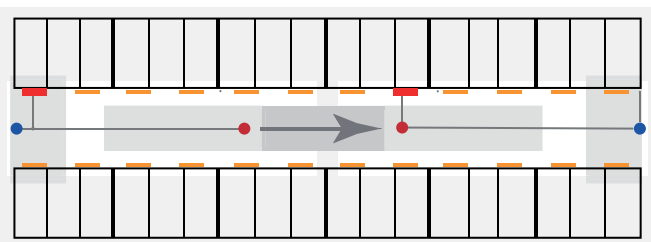

Figure 8:
- Detection range can be restricted (shaded) with an aperture (see figure 8).
All luminaires are supplied separately with mains voltage. Up to 20 luminaires in a system are controlled via radio. The sensors are connected to the controller luminaire via a two-core DALI control line (see figure 8). It should be noted that the sensors must be taken into account when determining the max. 32 DALI devices that can be operated in a system.
Some IS 3360 MX sensors are equipped with apertures so that the detection area is shaded, as shown in figure 8 (see installation instructions of the sensor). In some driveways, several systems are required to control all installed luminaires. Since these function independently of each other, the detection ranges of the sensors of adjacent systems must overlap in the driveway (see figure 8). This way, leading light can be implemented, preventing any vehicles from driving into a dark zone.